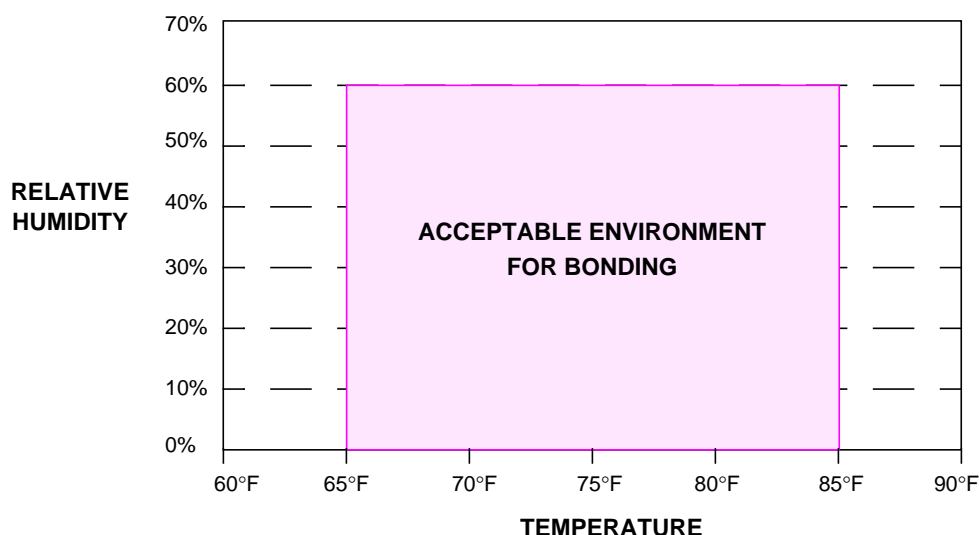

FIGURE 2 - TEMPERATURE AND HUMIDITY LIMITS
- 6.2.2 Maintain the temperature and relative humidity of the bonding areas within the range specified in Figure 2. Bonding when the relative humidity is below 30% will increase the chance of static discharge and worker discomfort, but will not affect part quality.